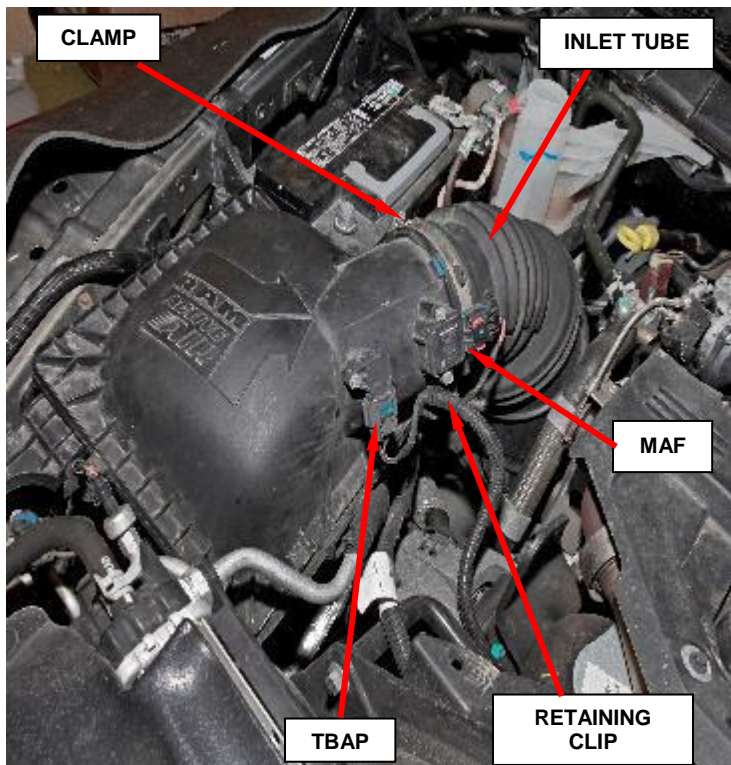

Figure 7 – Air Cleaner Body
b. Disconnect the Mass Air Flow (MAF) sensor wire harness connector (Figure 7).
c. Disconnect the Temperature/Barometric Pressure Sensor (TBAP) sensor wire harness connector (Figure 7).
d. Release the upper wire harness retaining clip from the air cleaner body (Figure 7).
e. Loosen the clamp and disconnect the turbocharger inlet tube from the air cleaner body (Figure 7).